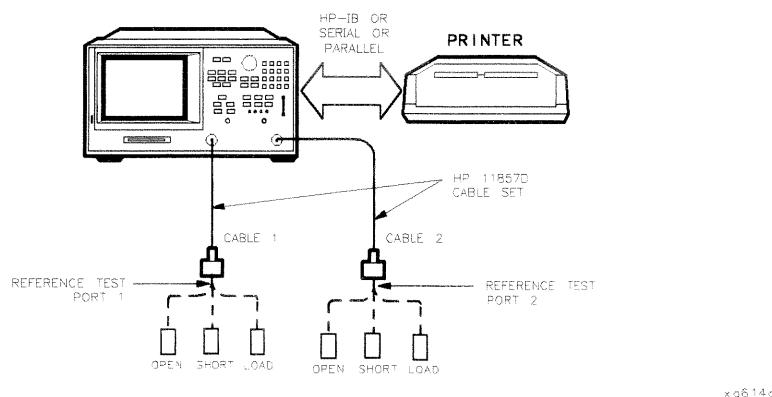

Figure 2-8. System Verification Test Setup
1. Connect the equipment as shown in Figure 2-8. Let the analyzer warm up for one hour.
12. Connect the “open” end of the open/short combination (supplied in the calibration kit) to reference test port 1, as shown in Figure 2-8.
18. When the analyzer finishes measuring the standard, connect the “open” end of the open/short combination to reference test port 2, as shown in Figure 2-8.